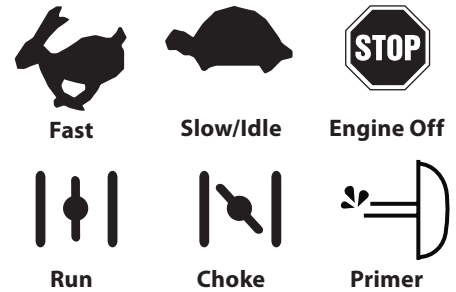

Figure 5-1
**Familiarize** yourself with the engine symbols shown in "Figure 5-1" before attempting to start this engine. If this engine is remotely controlled by the equipment it is powering, be sure to familiarize yourself with the equipment Operator's Manual as well.